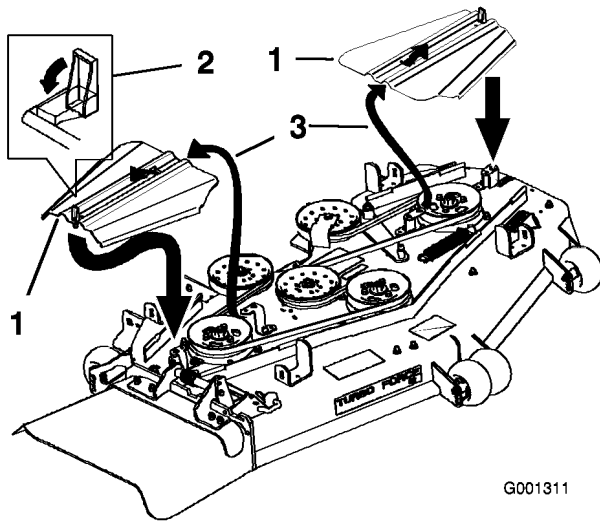

Figure 51
10. Install the belt covers and close the latches (Figure 51).